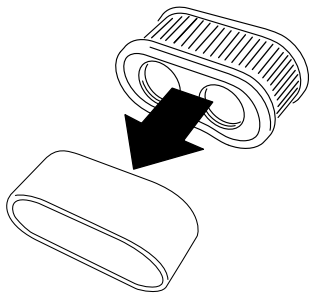

Figure 36
5. Remove the foam element from the paper element (Figure 36).